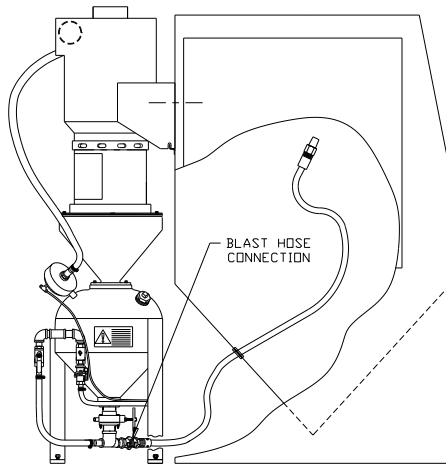

Figure 6. Hose/Coupling Connection
Step 12: Connect the blast hose quick coupling as shown in Figure 6 to the tank coupling below the Sure-Flo Media Regulator. Install the safety pin.